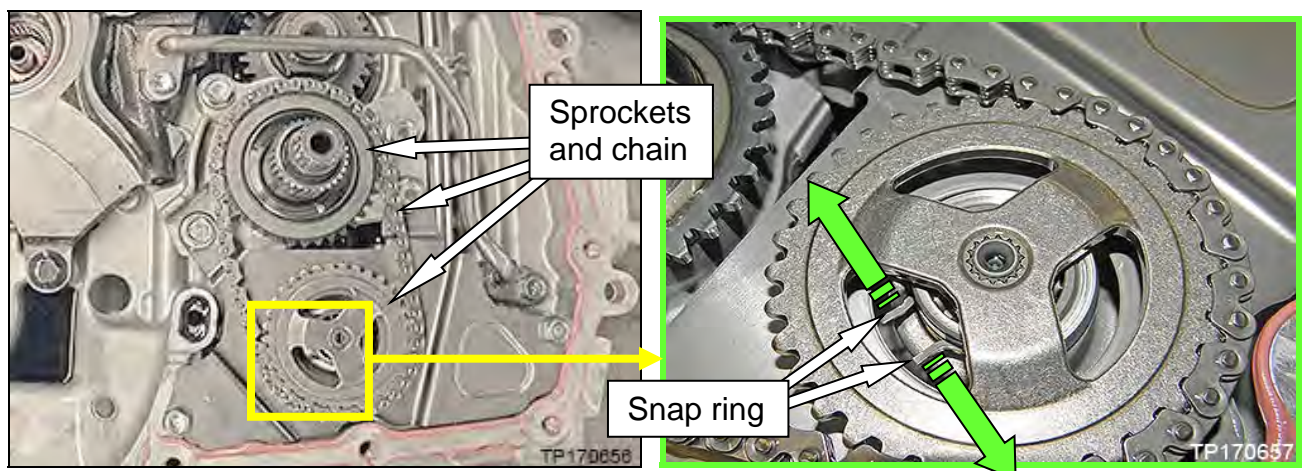

Figure 5H
6. Spread the snap ring shown in Figure 5H and then remove both sprockets and the chain.